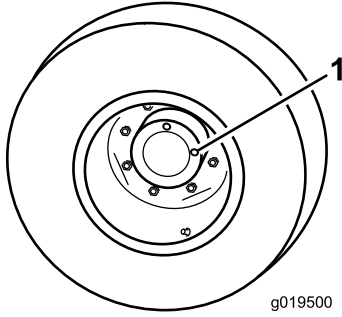

Figure 66
1. With machine on level surface, position the wheel so 1 check plug is at the 12 o'clock position and the other is at 3 o'clock position (Figure 66).
1. Check/drain plug (2)
2. Remove the plug at the 3 o'clock position (Figure 66).